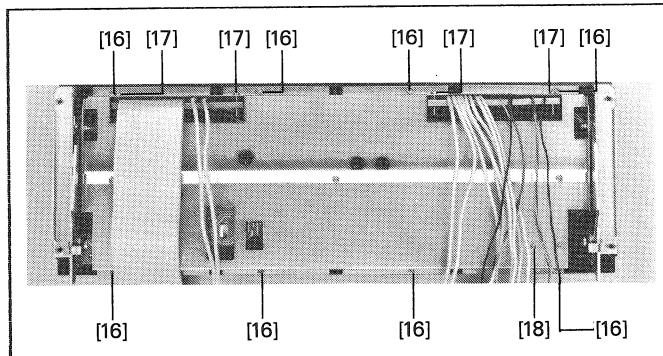

Fig. 7
- Unfasten the 8 screws [16] (Fig. 7) on the rear cover of the control panel, remove the rear cover.